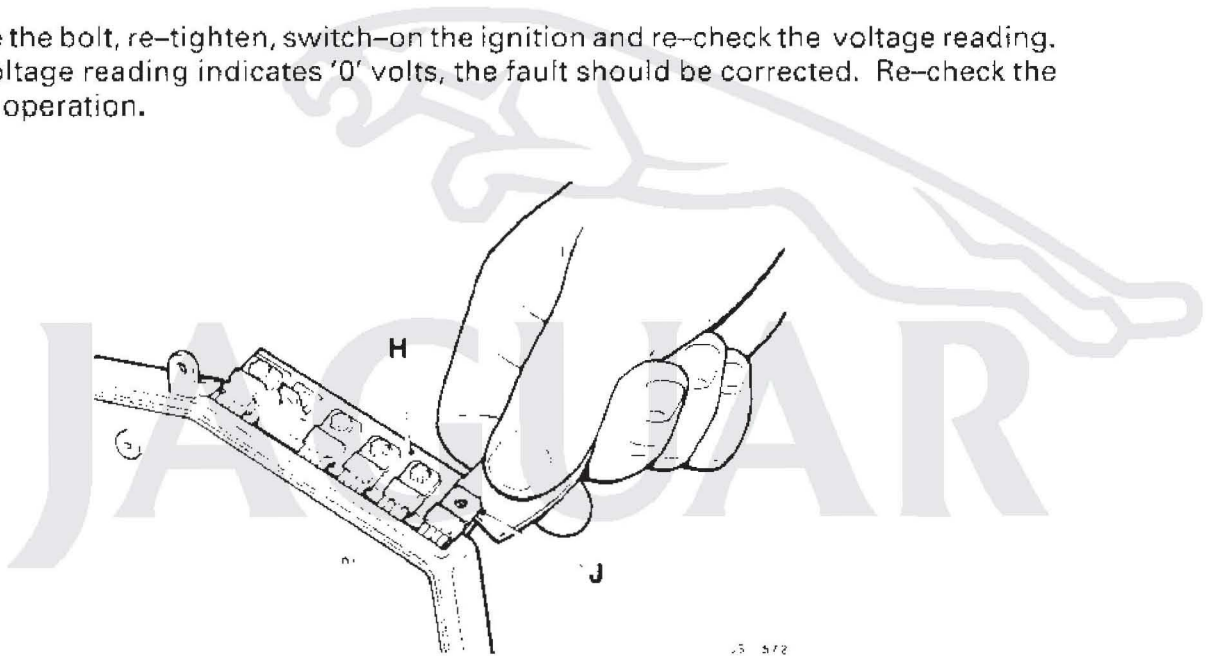

FIG 2
7. If the voltage reading remains high, turn-off the ignition. Release and remove the earth bolt and check for any signs of contamination, oxidization, etc. Using a very fine abrasive paper (P1000 or above), clean the earth track as shown in Fig 2. Ensure that both the microprocessor heat sink surface (H) and the power transistor bracket surface (J) are cleaned.